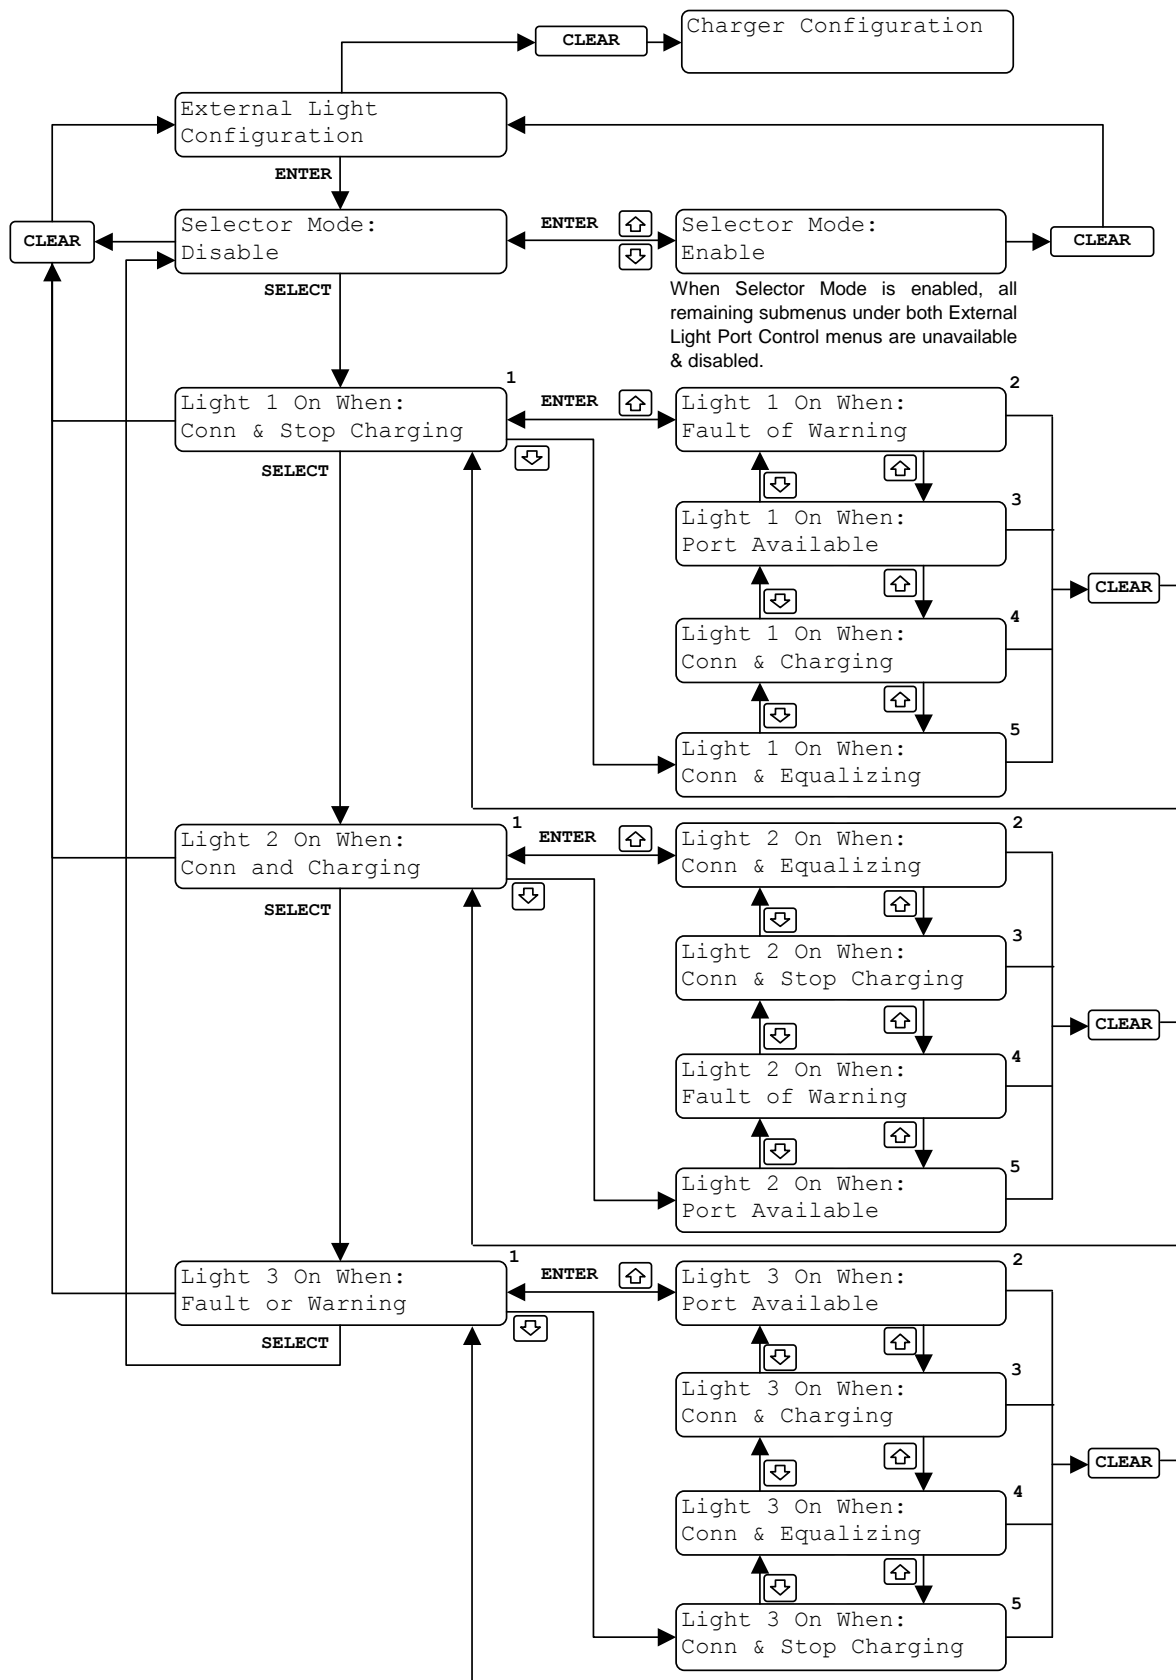

Figure 5- 14 External Light Configuration Menu
- Press <enter> to display the Light 1 setting (see Figure 5- 14).